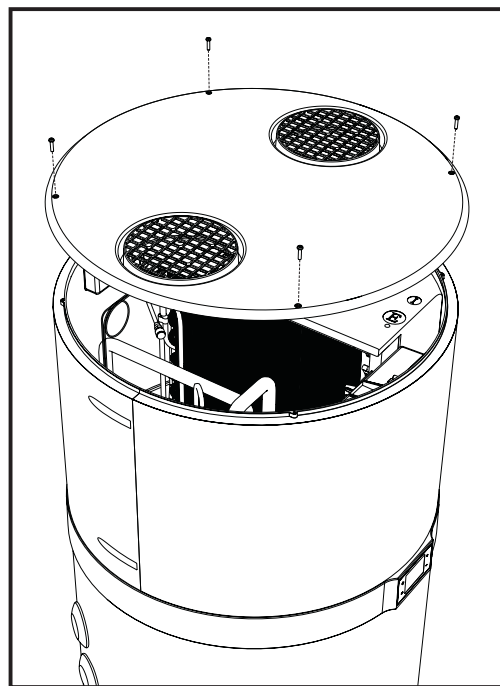

fig. 43 - Top cover removal
- Remove the top cover by first undoing the locking screws (fig. 43).